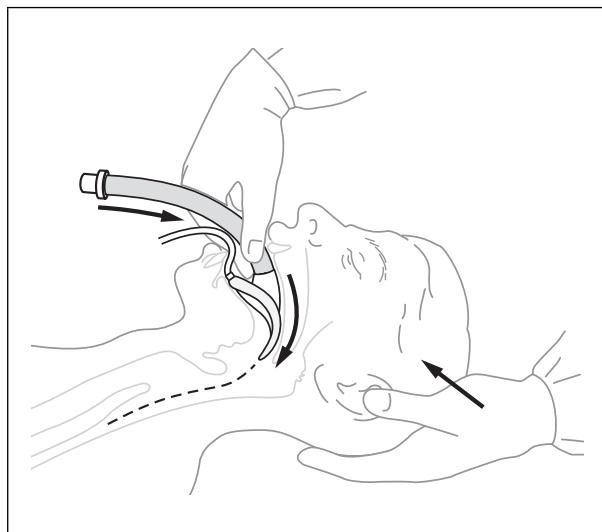

Figure 4
5. As the mask moves downwards, the index finger maintains pressure backwards against the posterior pharyngeal wall to avoid collision with the epiglottis. Insert the index finger fully into the mouth to complete insertion (Figure 4). Keep other fingers out of the mouth. As insertion progresses, the flexor surface of the whole index finger should lie along the tube, keeping it firmly in contact with the palate. (Figure 4).